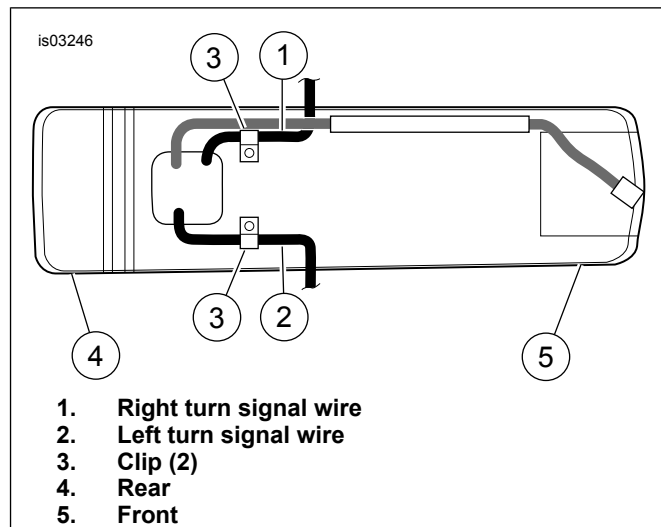

Figure 3. Turn Signal Wires and Clips (Viewed from Bottom Inside Rear Fender)
5. See Figure 3. Remove turn signal wiring (1, 2) from clips (3) under rear of fender and pull wires out.